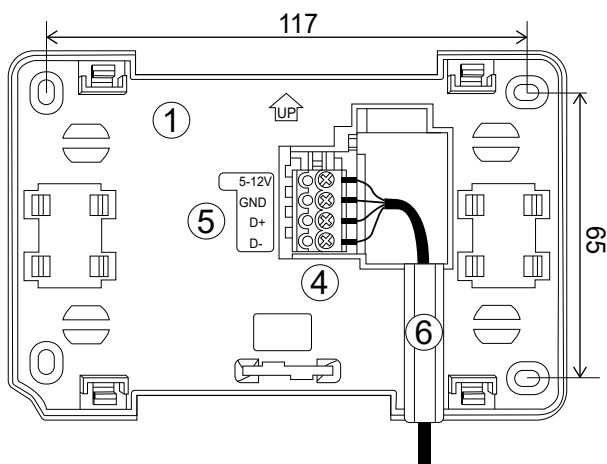

Figure 3-4: Mounting plate wiring
3. Connect the cable to the screw terminal as described on the plate. Refer to Figure 3-4. The cable can be recessed in the wall or it can run over its surface - In this case the cable should be additionally placed in the cable channel.
4. Drill holes in the wall and use screws to fix the mounting plate in the chosen place of the wall, maintaining its proper position (Refer to Figure 3-4)